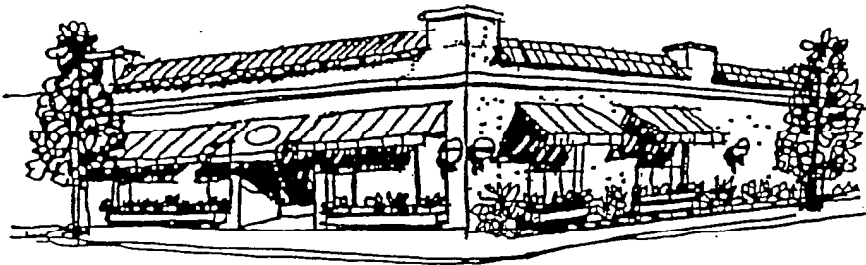

Figure 41
2. **Locate commercial structures at the front property line (Figure 41).**